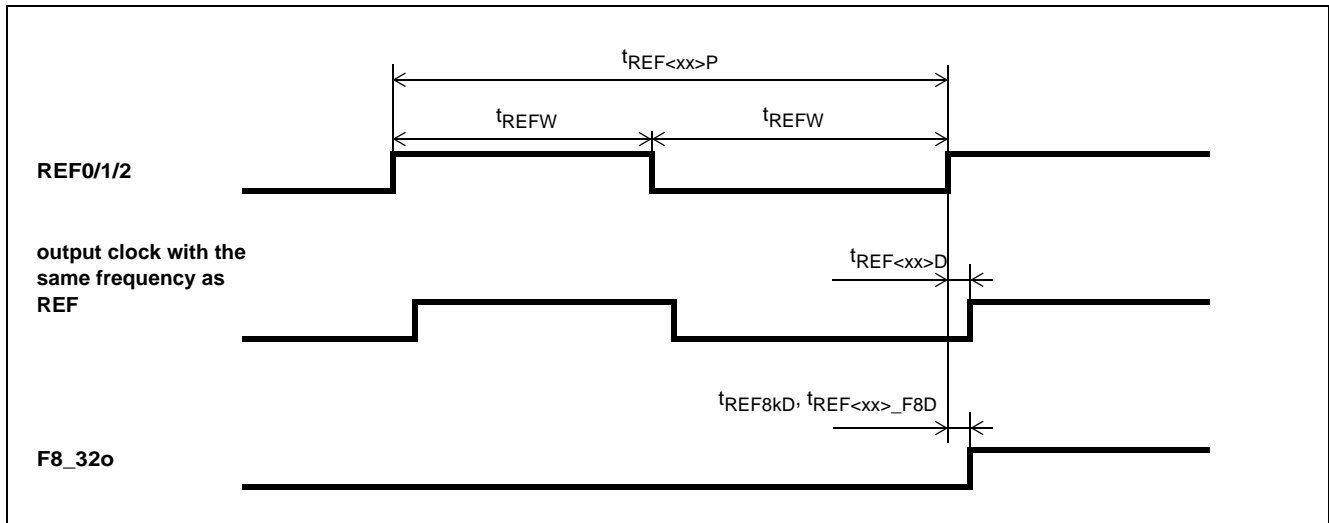

Figure 23 - REF0/1/2 Input Timing and Input to Output Timing
**AC Electrical Characteristics\* - Input timing for REF0, REF1 and REF2 references (see Figure 23).**
**AC Electrical Characteristics\*** - Input to output timing for REF0, REF1 and REF2 references when TIE\_CLR = 0 (see Figure 23).